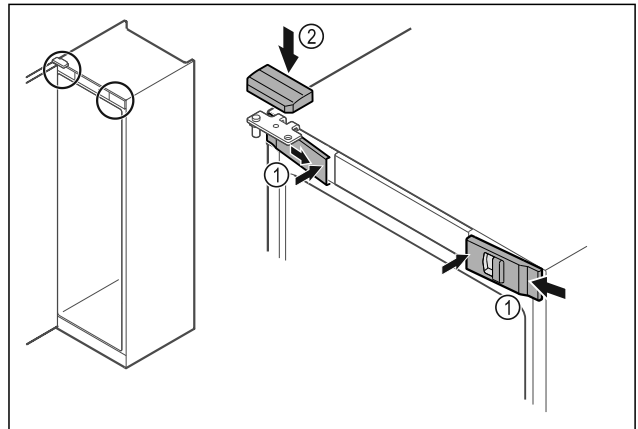

Fig. 51
- Hook in the front covers Fig. 51 (1) on the side and snap them into place on the inside.
- Snap on the top cover Fig. 51 (2) from above.